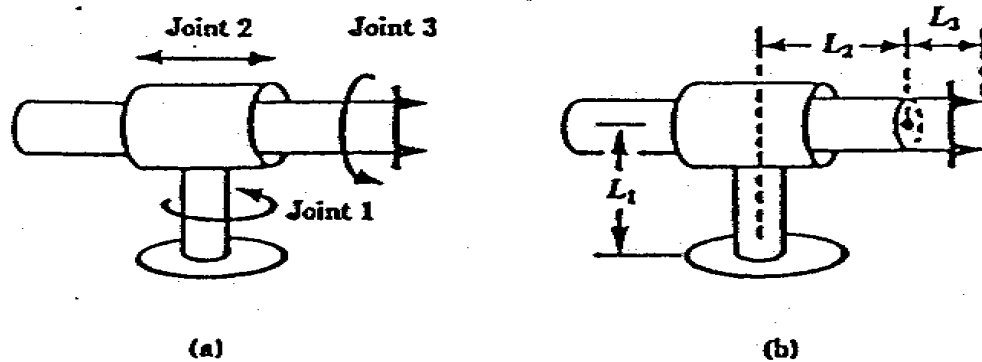

Figure 2
- b. Identify the kinematic parameters of the robot by filling in the table in Figure 2.
2. Figure 2 shows a 3-joint robot with one translational joint. It is a cylindrical robot whose first two joints are analogous to polar coordinates when viewed from above. The last joint provides “roll” for the hand.